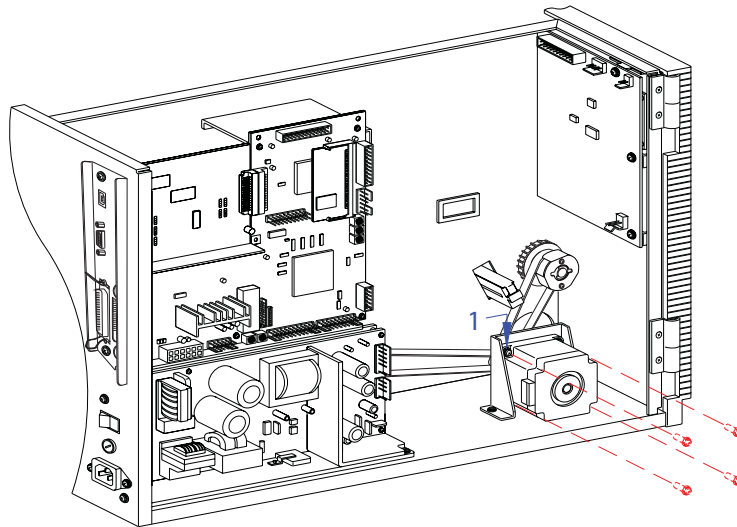

Figure 8-6, Timing Belt Tension
To adjust the tensioning of the timing belt, simply loosen the four motor mount screws (1, Figure 8-6) and then retighten them. The motor's mass will provide the proper belt tension without overt pressure, then retighten the four screws (1).